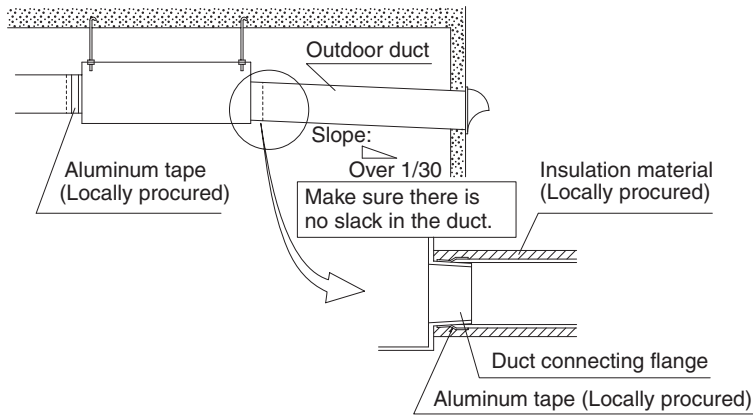

Fig. 16
- To prevent air leakage, wind aluminum tape round the section after the duct connecting flange and the duct are connected. (Refer to Fig. 16)
- Install the two outdoor ducts with down slope (slope of 1/30 or more) to prevent entry of rain water. Also, provide insulation for three ducts (Outdoor ducts and Indoor supply air duct) to prevent dew condensation. (Material : Glass wool of 25mm thick) (Refer to Fig. 16)
- Using flexible or silent ducts can be effective in reducing the air discharge sound of the supply air to room (SA). Select materials keeping in mind the fan strength and operating sound of the unit. Consult your Daikin dealer for selection.
- Set the pitch between the exhaust air outlet (EA) and the outside air intake (OA) to 3 times the duct diameter.